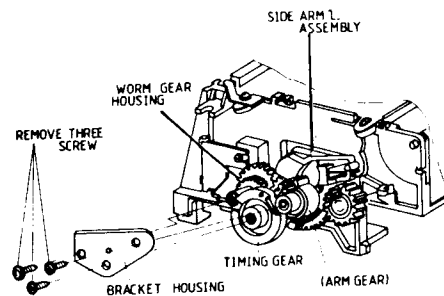

Fig. 21
1. Remove 3 screws holding each gear from the bracket housing . (Fig. 21) (Remove ground wire)
2. Remove the timing gear and the side arm (L) assembly and the worm gear housing.